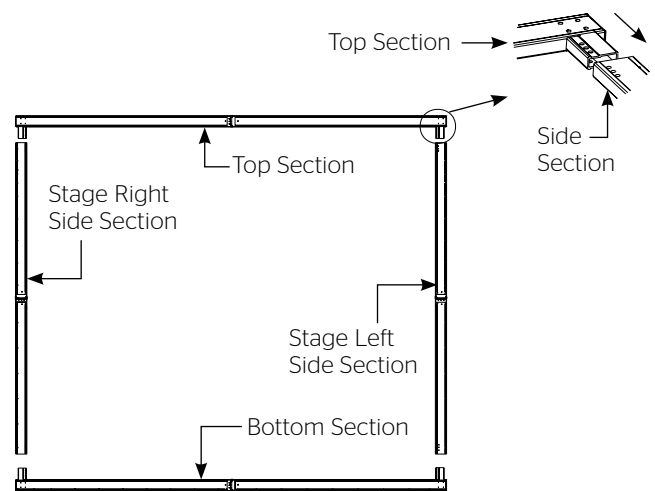

Figure 2
2. Attach top and bottom sections to side sections and tighten the Speedy Cranks securely. See Figures 2 and 3. Mount Back Braces to the top and bottom sections (for screens 22' and wider) and tighten the winghead screws securely.